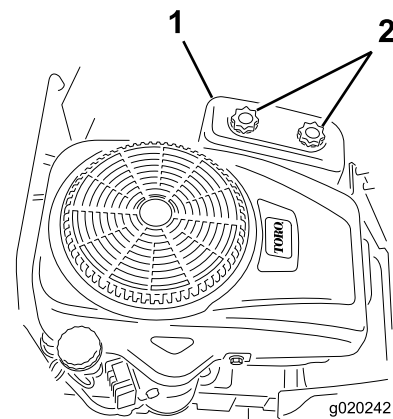

Figure 38
4. Remove the air-cleaner cover by unscrewing the 2 knobs (Figure 38).
3. Install the air-cleaner cover, and tighten the 2 knobs (Figure 38).